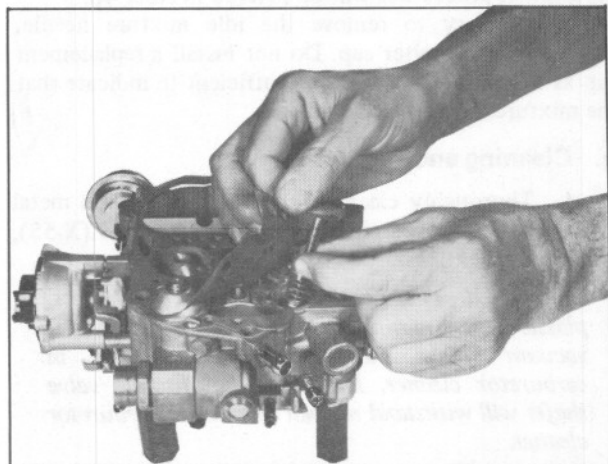

Fig. 6-33 Removing Accelerator Pump
1. Carefully loosen air horn gasket and lift one corner. Remove pump plunger from pump well, Fig. 6-33. Remove bowl vent spacer from pump plunger stem.